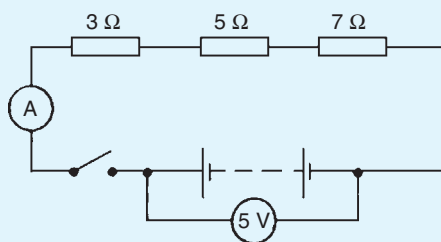

Figure 5.42
3. With the switch in Fig. 5.42 closed, the ammeter reading will indicate: